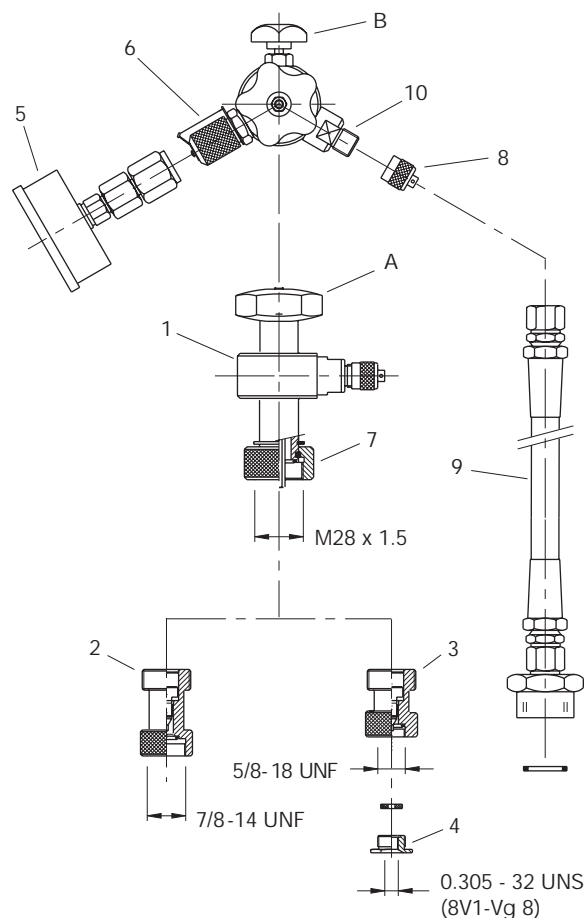

Figure 1 Universal Charging and Gauging Kit assembly
**Bladder or Piston Accumulators with Schrader-type Valve** Figures 1, 2a & 2b
Poppet-type Valve** Figures 1 & 3
### Diaphragm Accumulators Figures 1 & 4